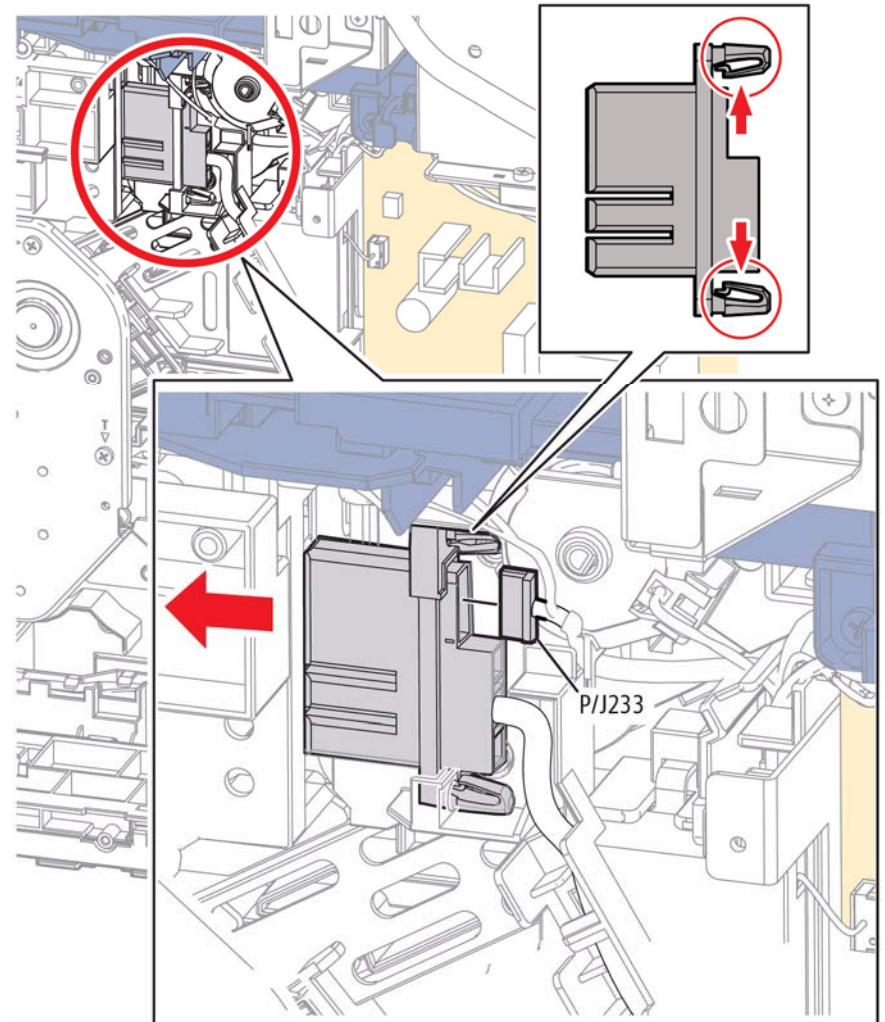

Figure 1 Release the Fuser Harness
10. Refer to Figure 1 to locate and release 2 clips that secure the Fuser harness.